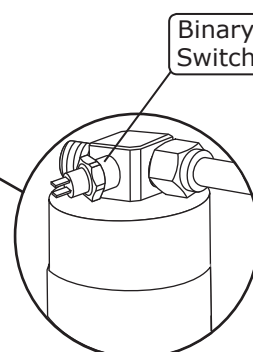

Figure 7
1. Install the binary switch onto the drier as shown in Figure 7 and Photo 10, below.